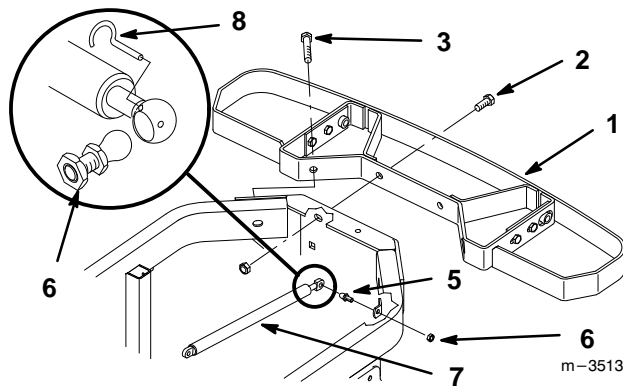

Figure 11
2. Position bumper around top rear of frame and secure in the center with (2) 1/2–13 x 1-1/4" (32 mm) bolts and 1/2–13 locknuts (Fig. 11). Secure to outer holes with (2) 1/2–13 x 2-3/4" (57 mm) bolts and 1/2–13 locknuts.
3. Install ball stud to hopper frame and traction unit frame tab with 5/16–18 locknut (Fig. 11).
7. Snap gas spring rod ends over ball stud at frame and hopper. Secure with safety clips (Fig. 11).